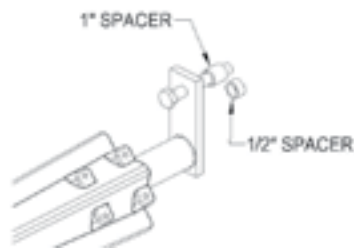

Figure 5
- B. Spacers are supplied to bring the steel swivel away from the frame in the event of any obstructions (see Figure 5).